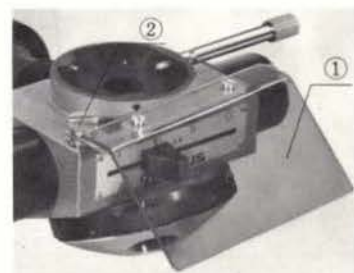

Fig. 4
### 4. Attach the vertical fluorescence illuminator. (Fig. 4)
- 1) Attach the UV protective shade ① to the upper end of the illuminator with set screw ②. (Fig. 4)